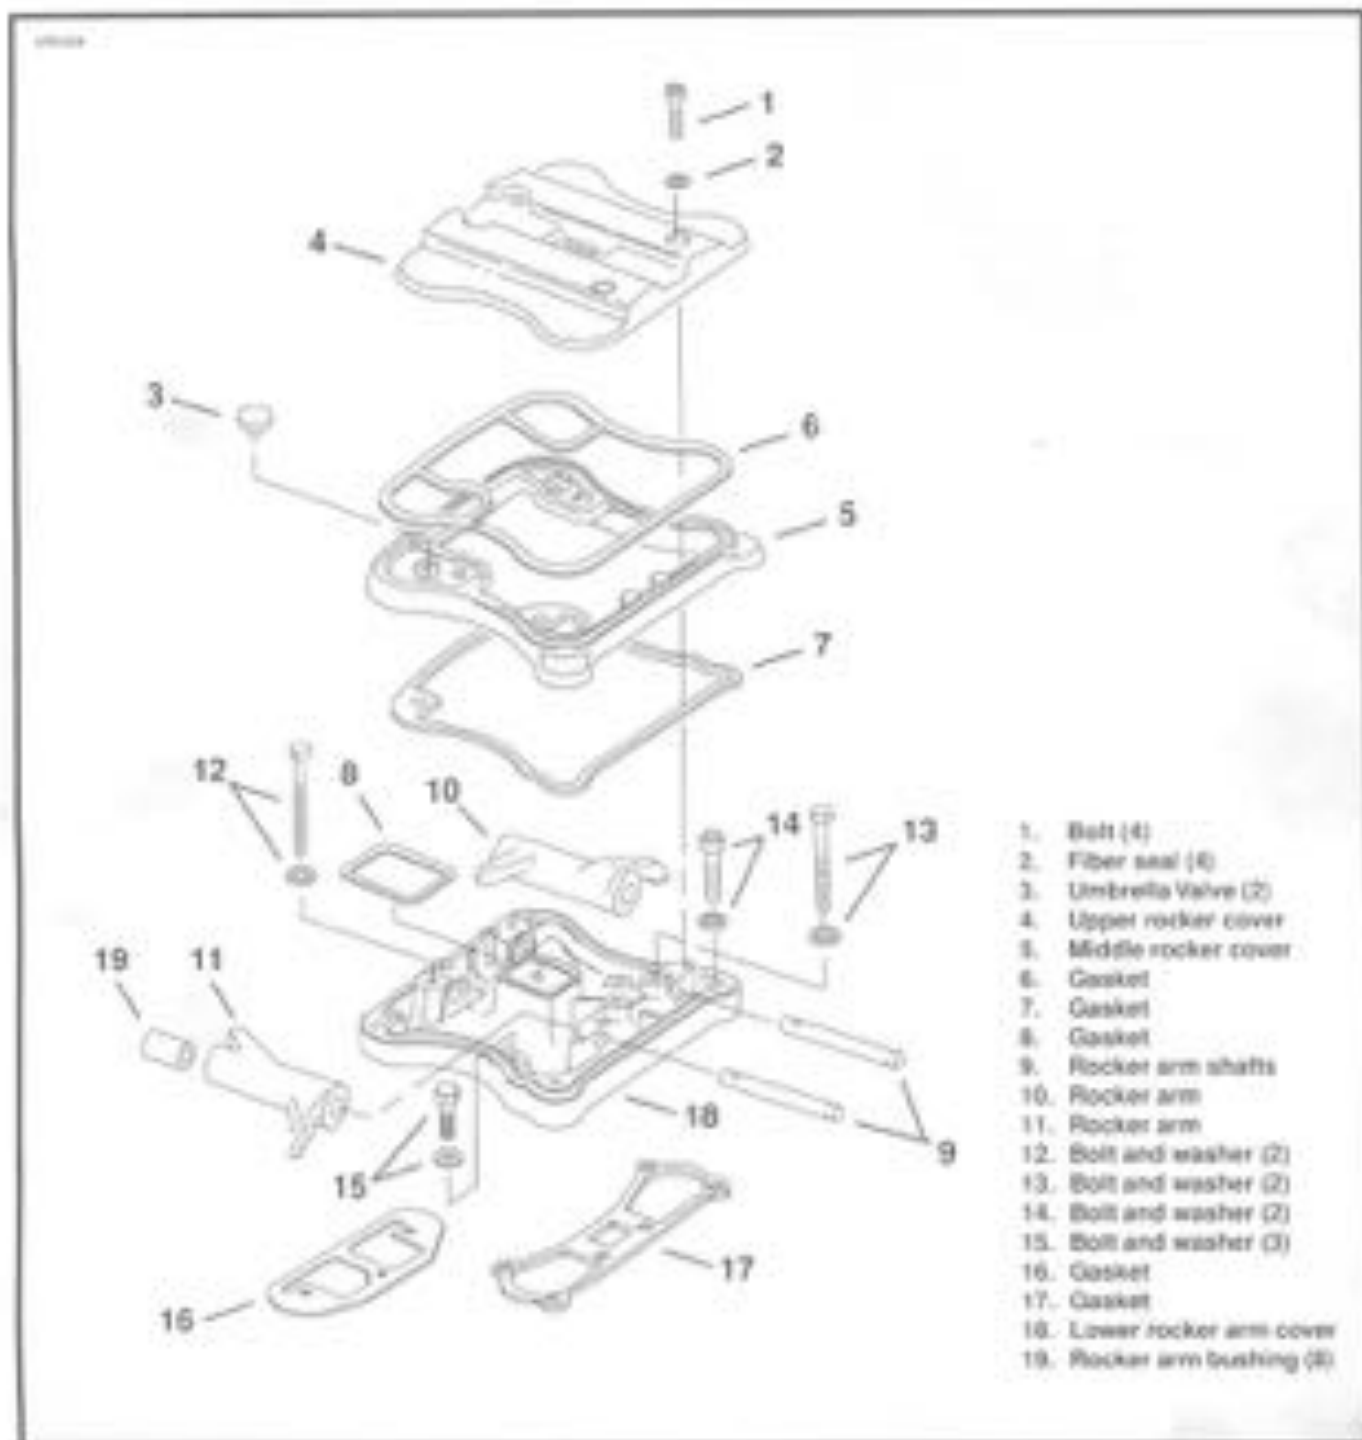

Figure 3-5. Rocker Arm Cover
1. See Figure 3-5. Remove four bolts (1) and fiber seals (2).
- See Figure 3-5. Remove rocker arms (10, 11); mark them for reassembly in their original locations.